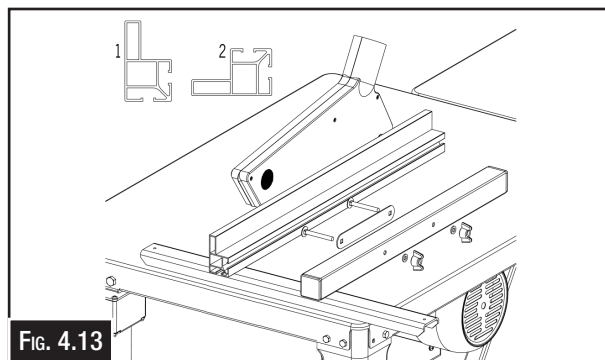

FIG. 4.13
-Use in upright position (Fig. 4.13) for cutting wide stock:
-The cutting of small work pieces (width less than 120mm) and tilted cuts shall only be performed with the rip fence profile placed flat (Fig. 4.13)